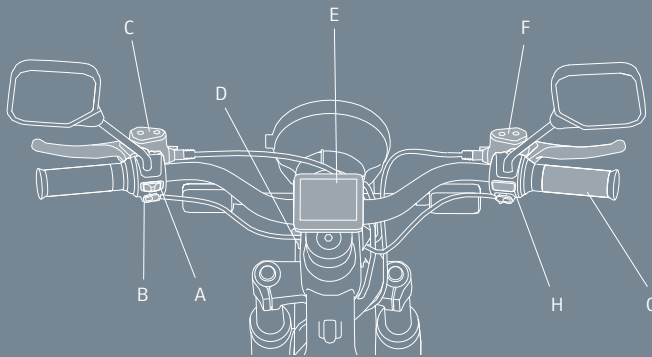

Fig. 11
1. Push and hold the start button for 2 seconds, (H) in Fig. 11. => The key card symbol is shown pulsating on the display.
Twist the throttle grip, (G) in Fig. 11. The power increases gradually.
When the vehicle is active, push the start button, (H) in Fig. 11, to toggle between ride mode 1 and ride mode 2.